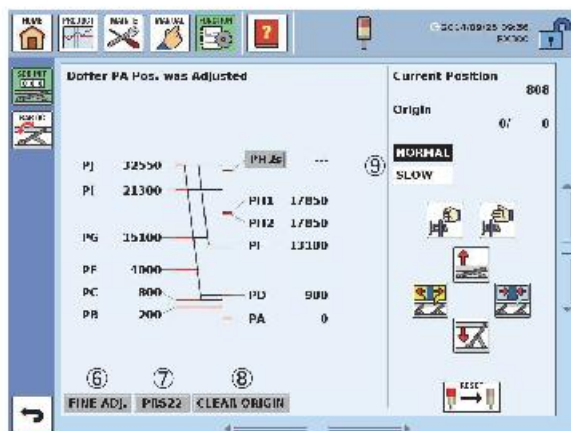

Fig.4 Doffer position adjustment screen (upon completion of origin setting)
- The screen is as shown in Fig. 4 when origin setting is incomplete.
■ Explanation on contents of screen display in Fig. 4
- ⑥ Doffer position fine adjustment switch
- ⑦ PRS22 origin position clear switch
- ⑧ Clear PA origin switch
- ⑨ Manual up/down movement mode select switch